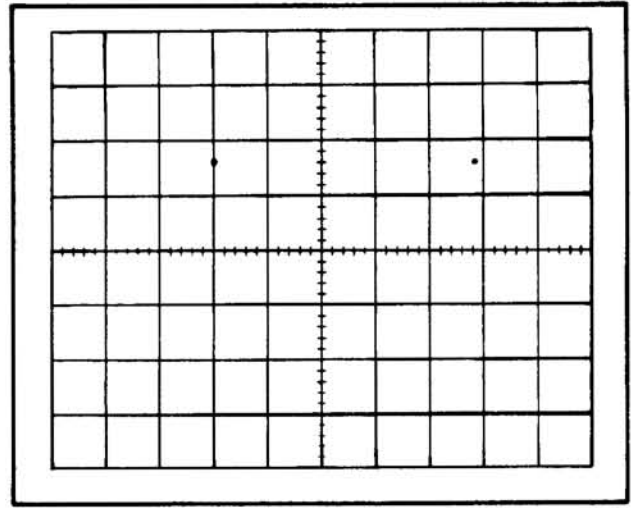

Fig. 6-53. Typical CRT display when checking external horizontal deflection factor.
e. CHECK—CRT display for horizontal deflection between 3.75 and 6.25 divisions (10 volts/division, $\pm 25\%$; see Fig. 6-53).